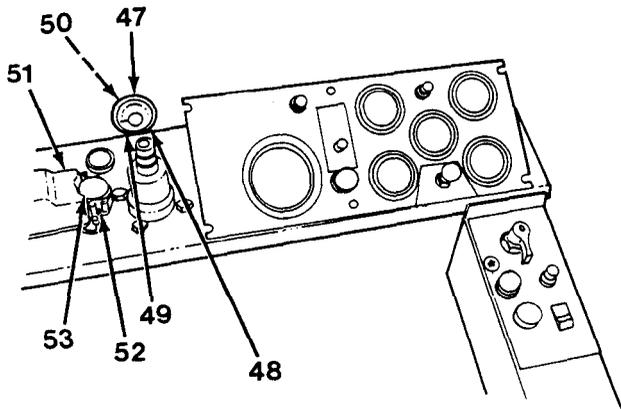

Figure 17-7
1. Installation of turn signal: Position turn signal (51) on stud and connect wires (52). Install retaining screws (53, Figure 17-7) in turn signal strap and turn signal (51). Position and tighten.
2. Installation of speedometer: Install case on wires (50) and connect wires (50) to speedometer (47). Slide case up wires and install speedometer (47) in case. Position speedometer on dash and install two lockwashers (49) and screws (48).